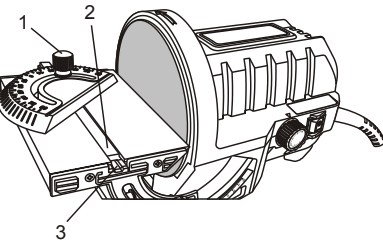

Fig. 8
1. Loosen the miter adjustment knob (1) by turning it counterclockwise (Fig. 8).
2. Slide the miter key (2) into the matching slot (3) in the sanding table.